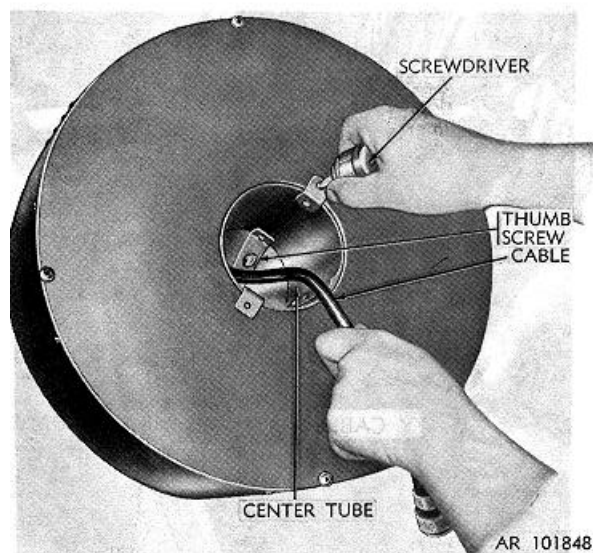
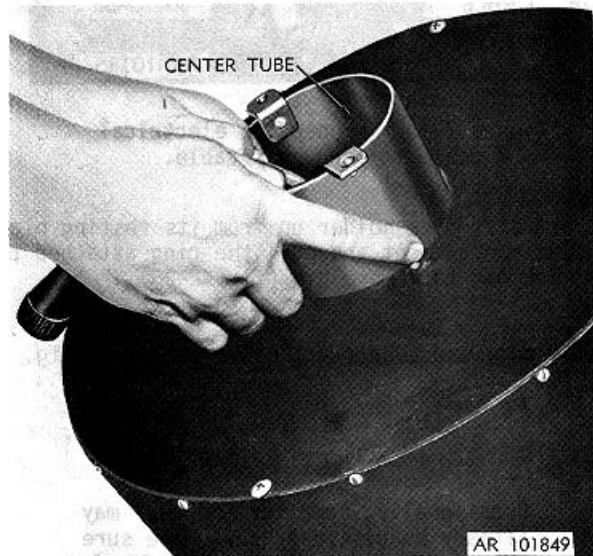

Figure 2-18. Removing screws which hold center tube in cable reel.
Figure 2-19. Removing center tube from cable reel.
e. With cross-tip screwdriver (Phillips-head), remove the two screws holding center tube in cable reel (fig. 2-18). Remove thumb screw from center of tube and pull out center tube (fig. 2-19). Handle cable reel carefully to prevent cable from escaping.